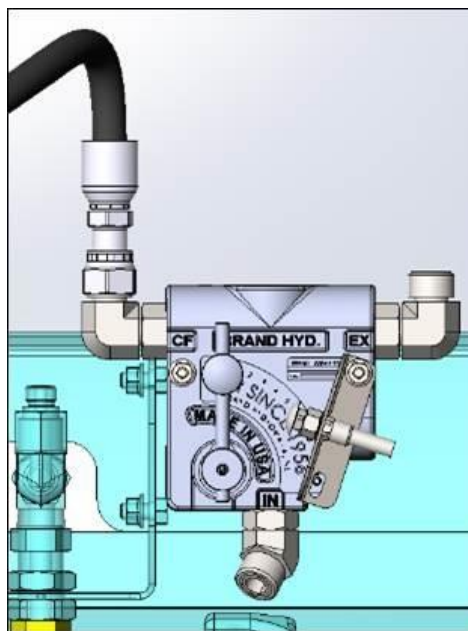

Figure 224
4. The oil goes through the valve ports as shown in. Figure 224